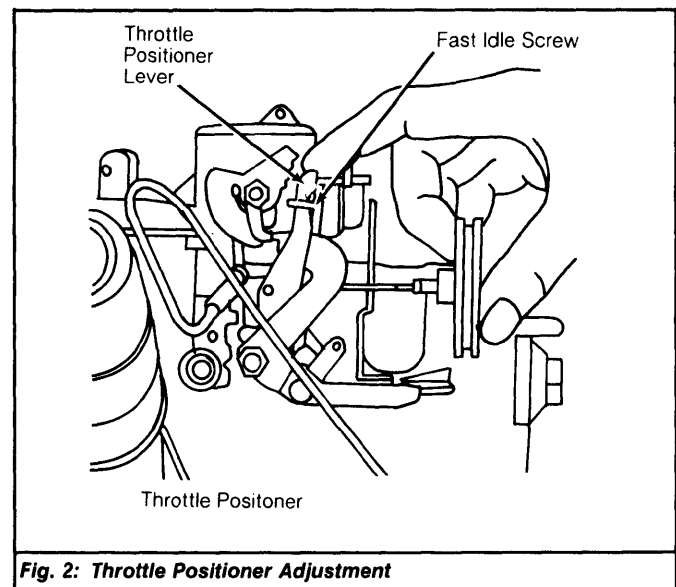

Fig. 2: Throttle Positioner Adjustment
1) Check fast idle speed and, if necessary, adjust to 1450-1650 RPM. Pull throttle positioner lever against stop and adjusting screw. See Fig. 2. With engine at normal operating temperature, engine speed should not exceed 1700 RPM.